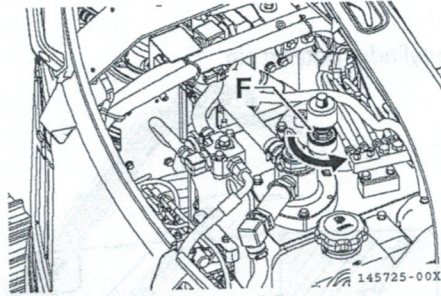

Fig. 3-13
3. If the ball is located below the midpoint, open the front cover (right) and then the supply port cap (Fig. 3-13, F) using a tool with a width across flats of 1.18 in. (30 mm), and refill the hydraulic oil. For the quality of the oil to be used, refer to "Fueling, Oiling and Greasing Based on Temperature Range" on page 197.